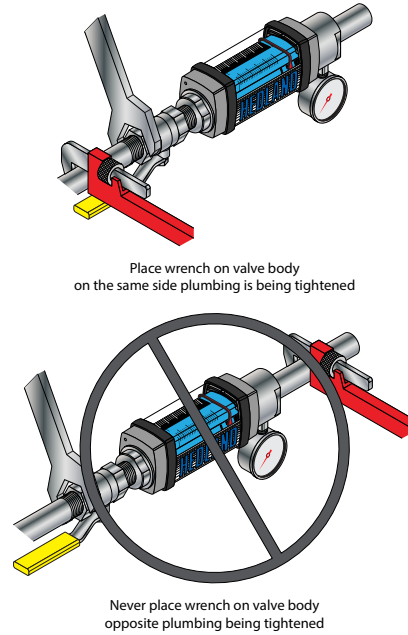

Figure 5: Installing test kit
2. Install the test kit at any location in the pneumatic circuit that is suitable for viewing. To connect the test kit into the piping system, place an open-ended wrench onto the test kit extended cap on the inlet side or on the test kit wrench flat on the outlet side adjacent to the pipe connection being installed. Do not wrench on the opposite end of the test kit or leakage may result. See Figure 5.